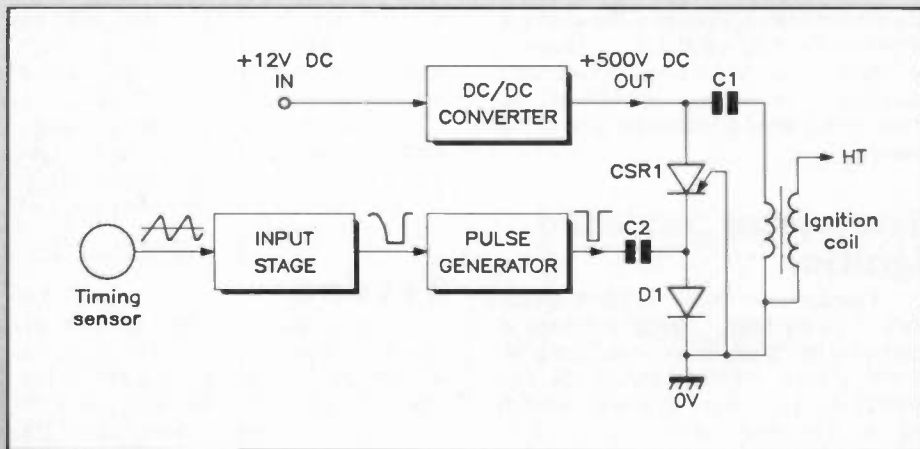

Figure 10. Capacitive Discharge Ignition block schematic of essential parts.
C.D.I. is electrically efficient like no other alternative system, producing enormous sparks for a miserly few hundred milliamps of supply current. Past experiments by this author with home grown C.D.I. designs have produced sparks of 1½ inches! Figure 10 shows a typical system in block form, and individual designs do not deviate much from this.